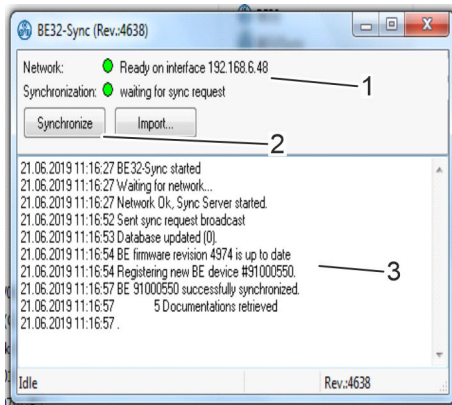

Fig. 31: BE32Sync
8. Make sure that the control unit (BE) is connected to the hydraulic power pack and a power supply and is switched on.
- ⇒ If everything has been configured and connected correctly, both indicator lamps will light up in green (Fig. 31/1).
Start synchronising (Fig. 31/2).